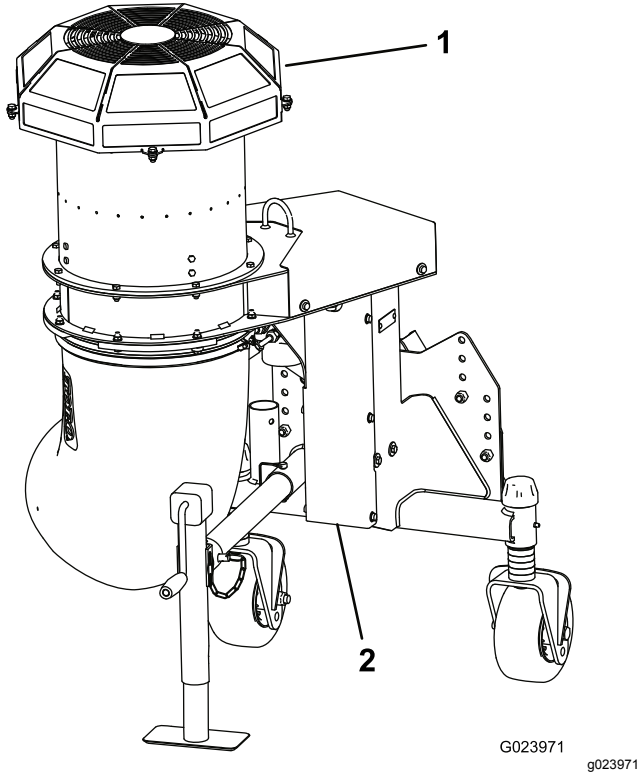

Figure 18
**Important:** Do not operate the machine without the fan guard and gear-case guard in place (Figure 18).